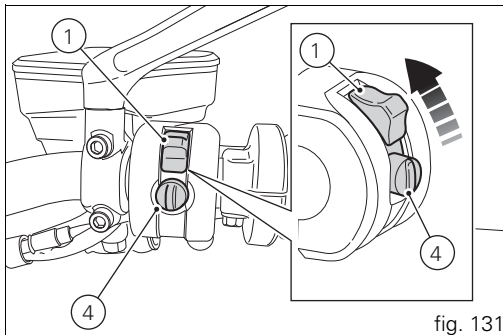

fig. 131
Move the red switch (1) up to uncover the black button (4, fig. 131).
The engine will shut off by setting the red button (1, fig. 131) on the handlebar to RUN OFF.